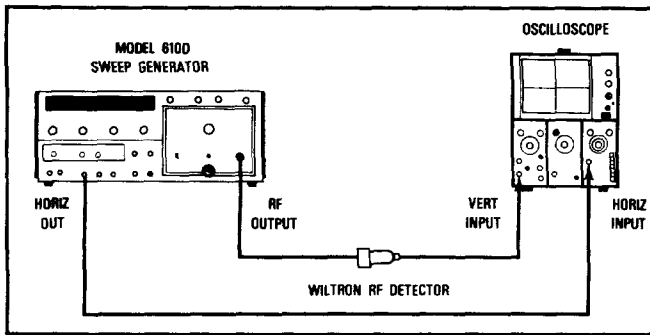

Figure 5-3. Test Setup for RF Power Leveling and Bandswitch Logic Tests
- a. Connect the equipment as shown in Figure 5-3.
- a. Connect system as shown in Figure 5-3.